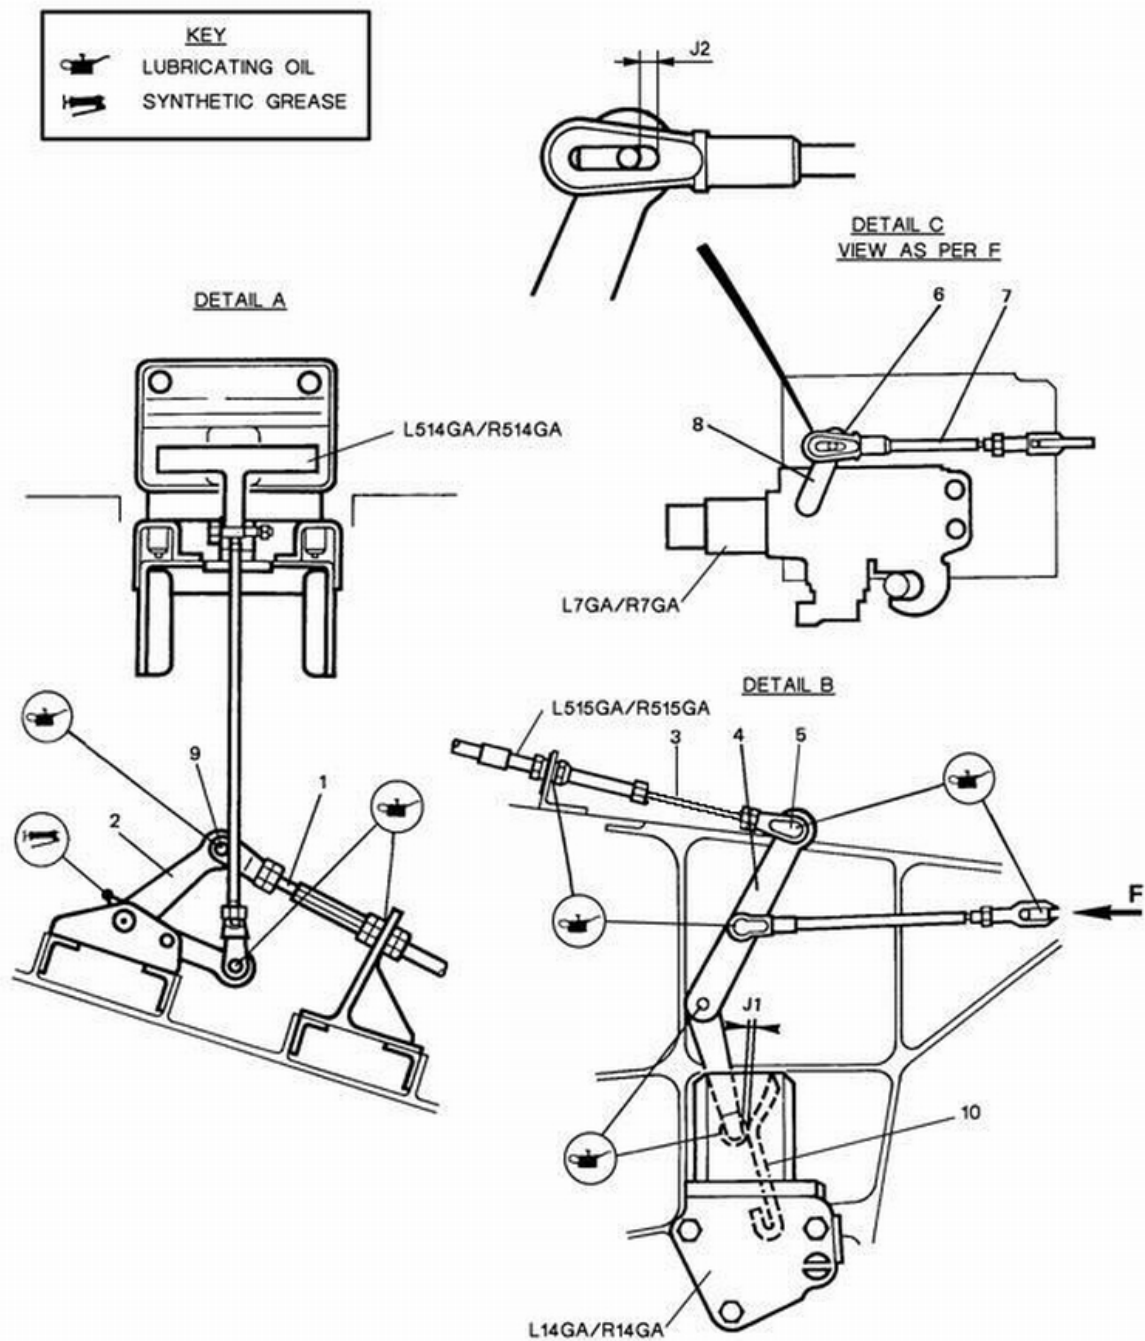

Figure 3: MAIN LANDING GEAR AND DOOR CONTROLS
(c) Slightly lubricate the marked points with **lubricating oil** (**fig. 3**, detail B).
(1) Manually close the hook of LH main L/G leg uplock box (**L7GA**) and main door uplock box (**L14GA**).
(2) Attach the spring scale to LH main L/G emergency mechanical extension control handle (**L514GA**).
(3) Measure the traction force required (≤ 11 daN (25 lbf)) to unlock the hooks (LH landing gear/LH door).
(4) If the force reading is > 11 daN (25 lbf)
(a) Uncouple flexible control (**L515GA**) from bellcrank (4) (**fig. 3**, detail B)
1 Uncouple link rod (7) from control lever (8) of main L/G leg uplock box (**L7GA**) (**fig. 3**, detail C)
- 1 Uncouple flexible control (**L515GA**) from relay bellcrank (2) (**fig. 3**, detail A).
- (5) Exert traction on flexible control (**L515GA**) to return main L/G emergency mechanical extension control handle (**L514GA**) to rest position.
- (6) If uncoupled, couple flexible control (**L515GA**) to relay bellcrank (2) (**fig. 3**, detail A).
- (a) Install the screw to couple relay bellcrank (2) to end-fitting (9).
- (7) If uncoupled, couple link rod (7) to control lever (8) of main L/G leg uplock box (**L7GA**) (**fig. 3**, detail C)
- install the straight pin fitted with its washer, to couple end-fitting (6) to control lever (8).
- install the screw, to couple end-fitting (6) to control lever (8).
- (d) Check that clearance J2 is 4.5 to 5 mm (0.17 to 0.19 in) (**fig. 3**, detail C).
- (e) If not, adjust the length of link rod (7).
- (f) Manually open the hook of main L/G leg uplock box (**L7GA**) using control lever (8).
- (8) If uncoupled, couple flexible control (**L515GA**) to bellcrank (4) (**fig. 3**, detail B)
- (a) Install the screw to couple bellcrank (4) to end-fitting (5).
- (g) Check that clearance J1 is 2 to 2.5 mm (0.08 to 0.10 in) between the roller of bellcrank (4) and control lever (10) of main door uplock box (**L14GA**) (**fig. 3**, detail B).
- (i) Manually open the hook of main door uplock box (**L14GA**) using control lever (10).
- (9) Perform on RH side the same operations as described for the LH side (see paragraph 5.B.).